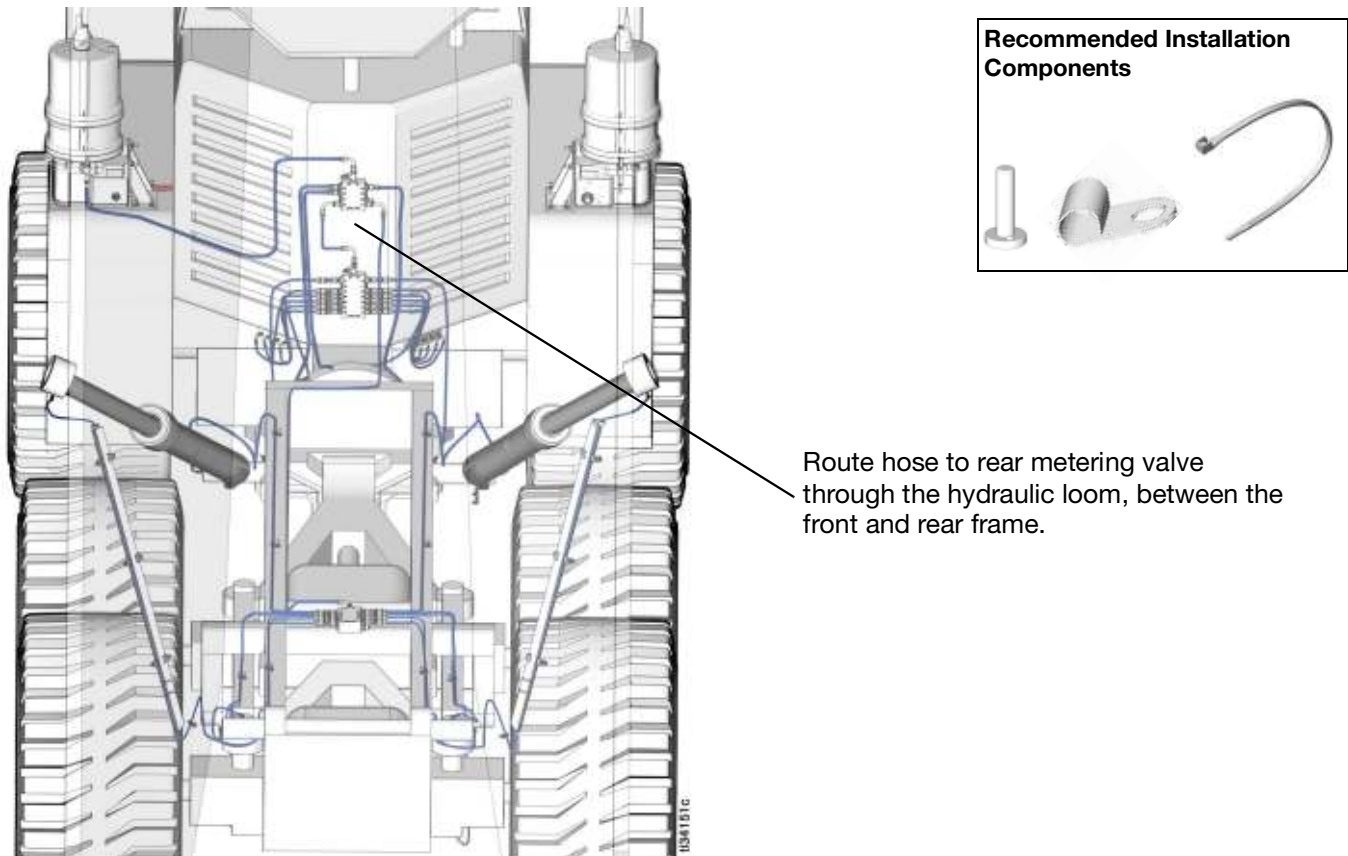

FIG. 17
- See FIG. 17 through FIG. 21 for hose routing examples.